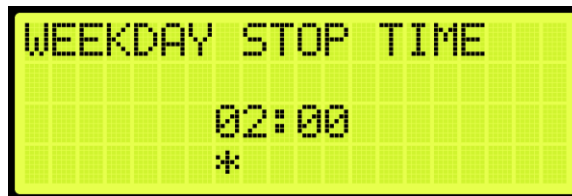

Figure 170: WEEKDAY STOP TIME Menu
13. From the WEEKDAY STOP TIME menu, set the stop time of the hall call security (See Figure 170).